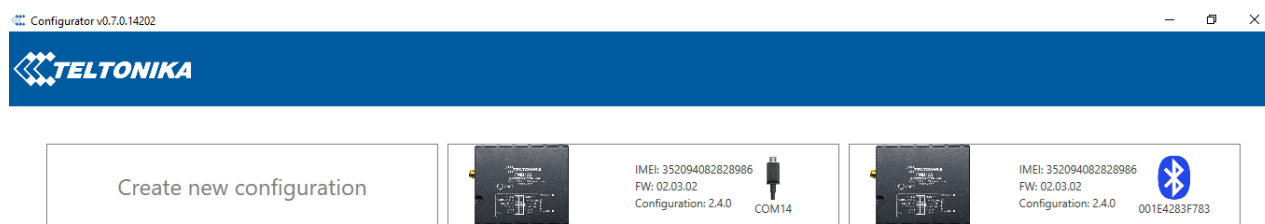

Figure 9 FMB20X configurator window when selecting the connection method
- 'Connect to device' (Figure 9) – connects device.